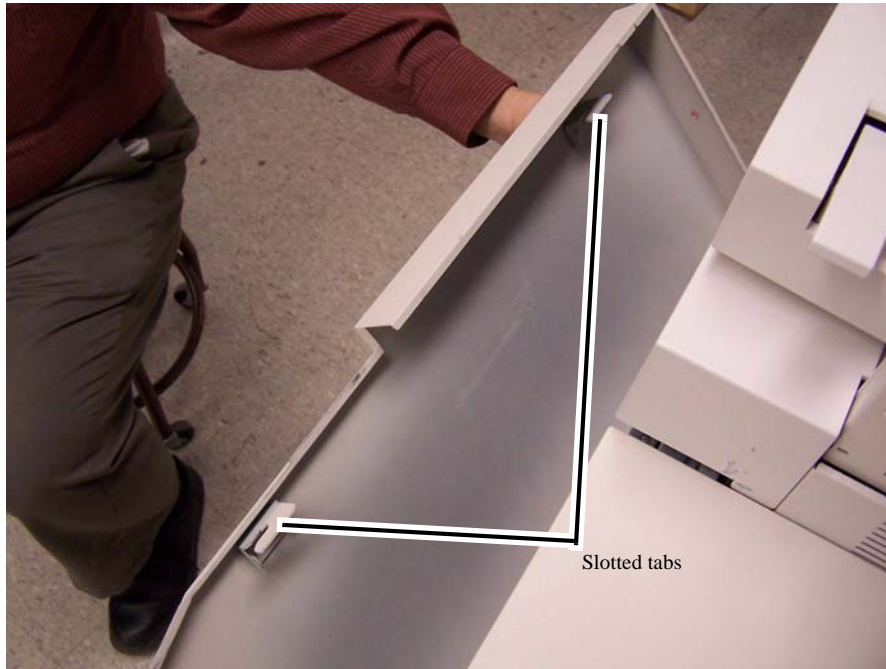

Figure 5 Slotted tabs slide over and are secured by two screws with stand-offs
5. Holding the rear of the cover level, slide the cover toward the rear of the Printer. When the cut down portion of the flange appears (Figure 4), tilt the top of the cover away from the Printer and remove it. Note the locations of the slotted tabs on the top inside of the cover (Figure 5).